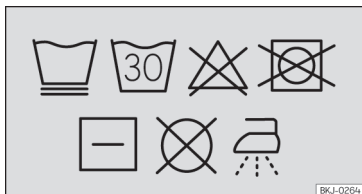

Fig. 154 Label on the covers: washing instruction symbols
- Washing instructions for removable covers » **Fig. 154**: